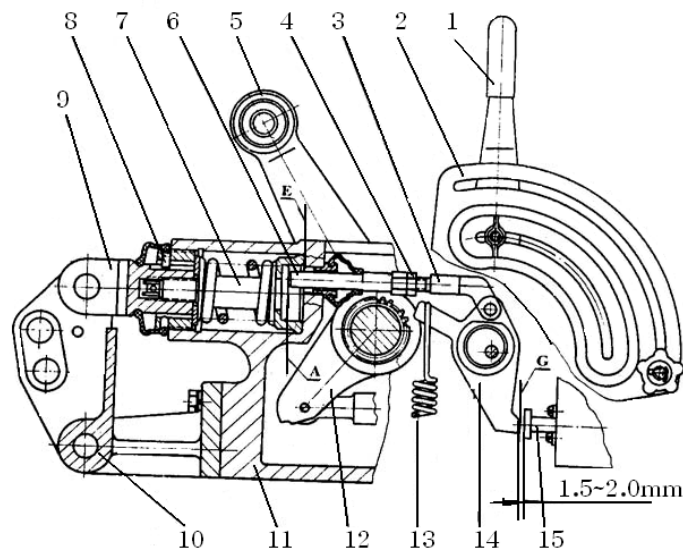

Fig. 5-12 The adjustment of the push rod of the draft control system
(2) For the adjustment of push rod of the draft control system, please see Fig. 5-12. Put the draft control spring assemble into the lift housing, make its front end to contact surface E of the housing, and insert the locating pin.